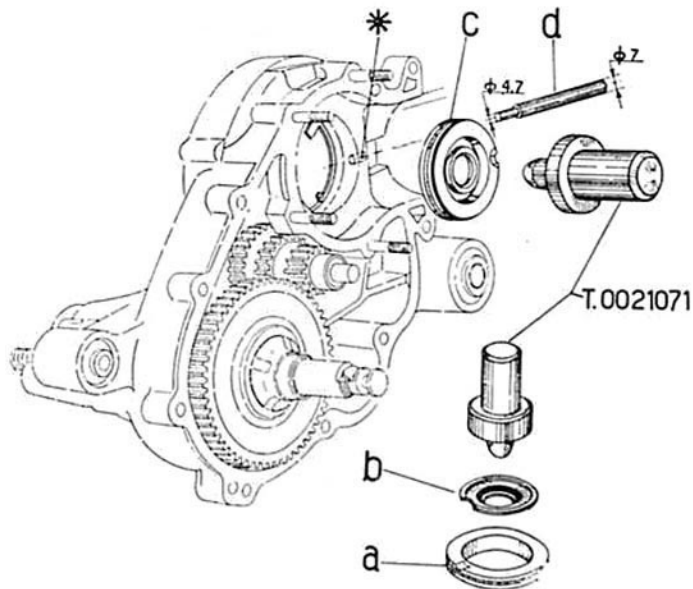

Fig. 117.
3. Mount oil seal on crankcase half, flywheel side (operation similar to, and to be performed with the same tool as, that for assembling the oil seal on the crankcase spacer, clutch side, Fig. 117).